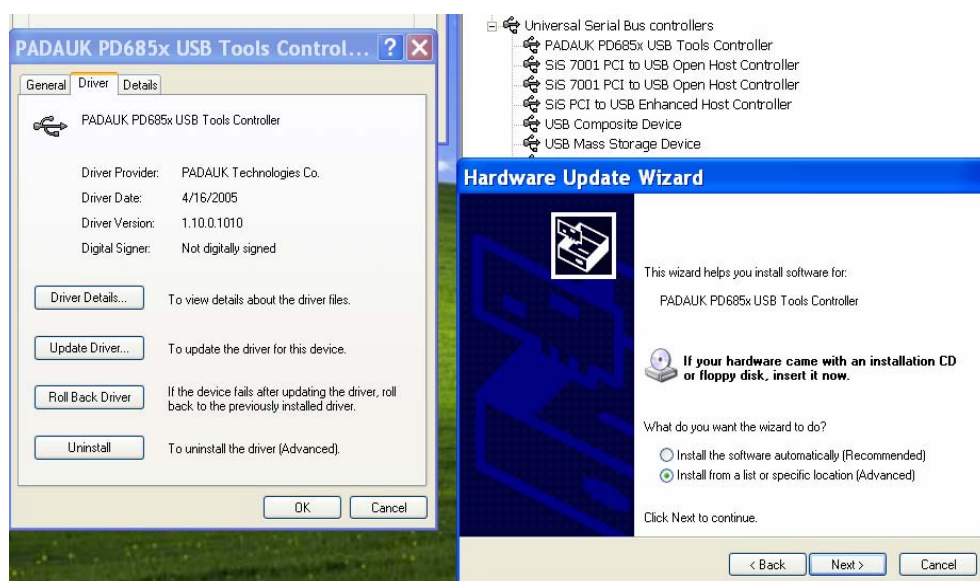

Fig.3-9 : Hardware Update Wizard from PADAUK PD685X USB Tools Controller
Step 4 : Click **【Driver】** , then click **【Update Driver】** in the window of PADAUK PD685X USB Tools Controller ; The window of Hardware Update Wizard will be shown as Fig.3-9 , then select **【Install from a list or specific location】** .